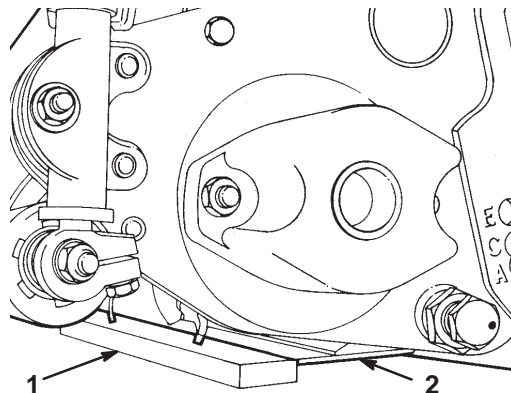

Figure 5
- Position a 1/4 in. (6.4 mm) or thicker plate under the reel blades and against the front face of the bedknife (Fig. 5).